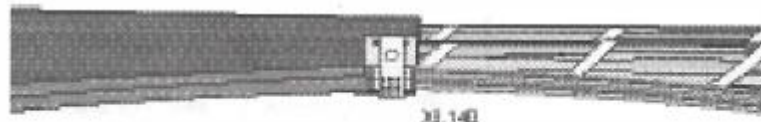

Figure 27
5. Place the exposed metal shield of the service wire onto the shield connector. Fold the connector over and secure it with a washer and nut. The service wire jacket should end 1/4" from the edge of the shield connector. (Fig. 27)